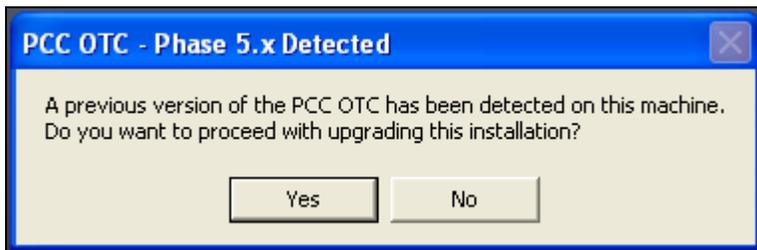

Figure 2.25.1
3. The screen should indicate that a previous version of PCC OTC has been detected (Figure 2.25.1). Click **‘Yes’** to continue.